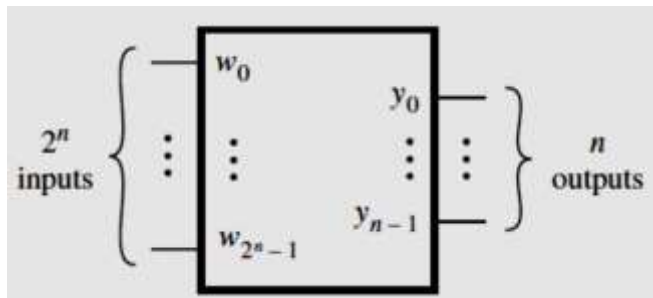

Figure 8.2 Encoder
- A binary encoder encodes information from 2^n inputs into an n -bit code, as indicated in Fig. 8.2.